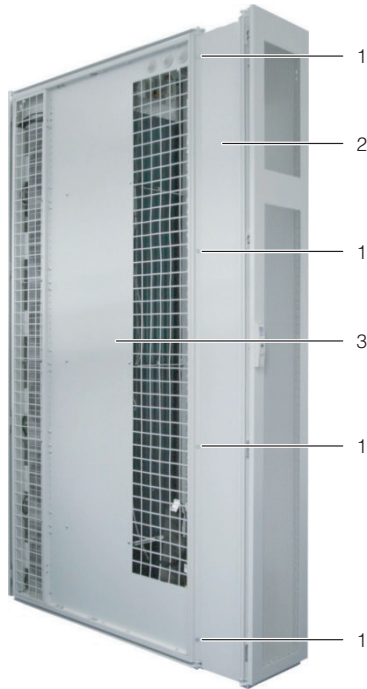

Fig. 26: Adaptor on the LCP Inline
- Attach the adaptor (Fig. 26, item 2) to the rear opening of the LCP Inline using four of the supplied screws (Fig. 26, item 1) each on the left and right.